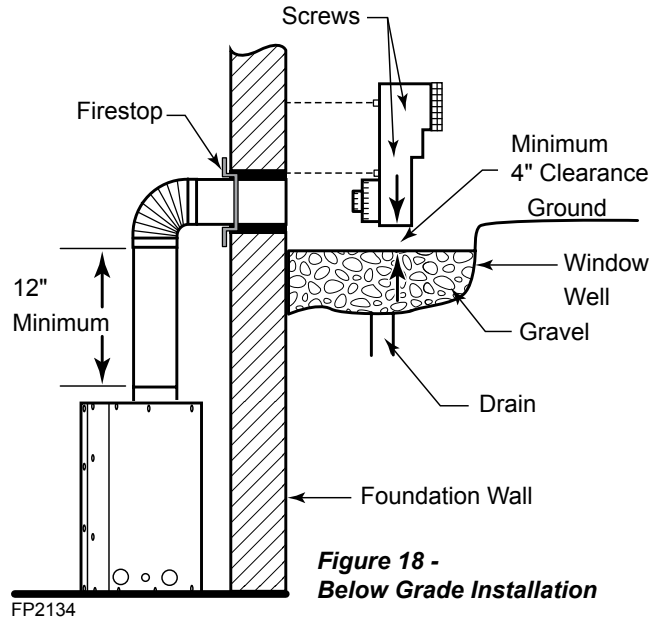

Figure 18 - Below Grade Installation
7. Level the soil so as to maintain a 4" clearance below snorkel. *Figure 18*
2. Remove soil to a depth of approximately 16" below base of snorkel. Install drain pipe. Install window well (not supplied). Refill hole with 12" of coarse gravel leaving a clearance of approximately 4" below snorkel. *Figure 18*